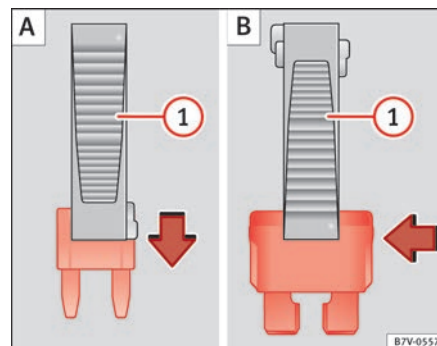

Fig. 202 Removing or fitting a fuse.
- For *small fuses*, insert the pincers from above ⇒ fig. 202 (A).
- For *larger fuses*, insert the pincers from one side of the fuse (B).
- Replace the blown fuse by one with an *identical* amperage rating (same colour and markings) and *identical* size ⇒ ①.